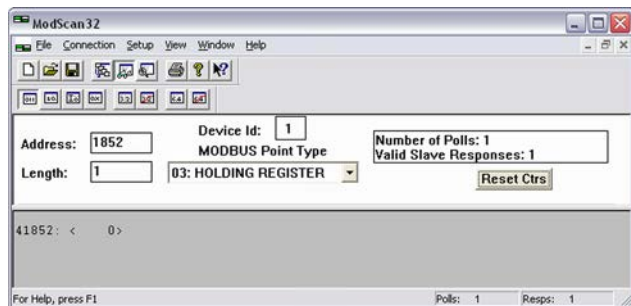

Fig. 256: Modscan32 at address 41852
- ➔ Set the configuration to address parameter 1851 as shown in ( Fig. 256).